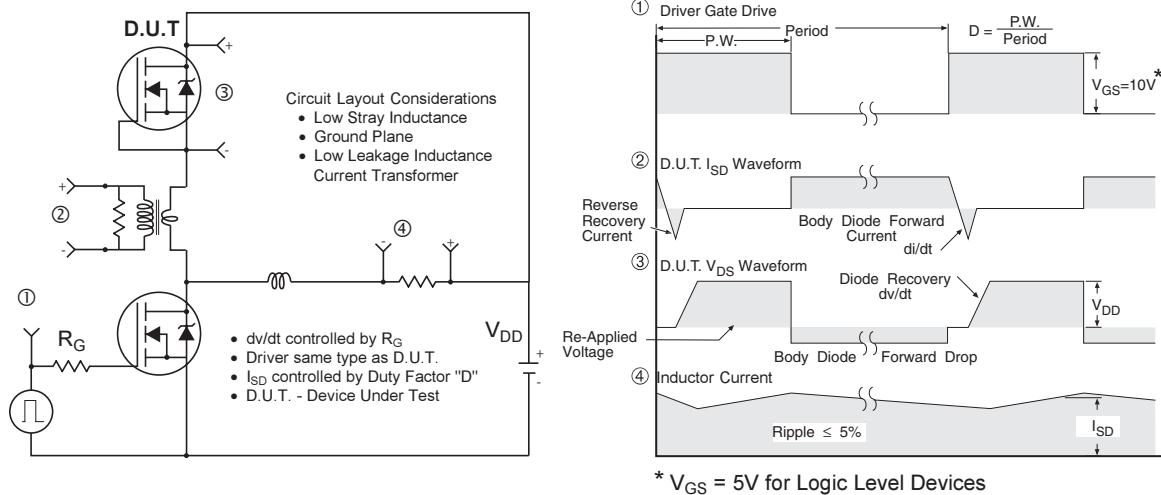

Fig 20. Peak Diode Recovery dv/dt Test Circuit for N-Channel HEXFET® Power MOSFETs
**Fig. 16.** Threshold Voltage vs. Temperature**Fig. 17** - Typical Recovery Current vs. di_f/dt **Fig. 18** - Typical Recovery Current vs. di_f/dt **Fig. 19** - Typical Stored Charge vs. di_f/dt **Fig. 20** - Typical Stored Charge vs. di_f/dt